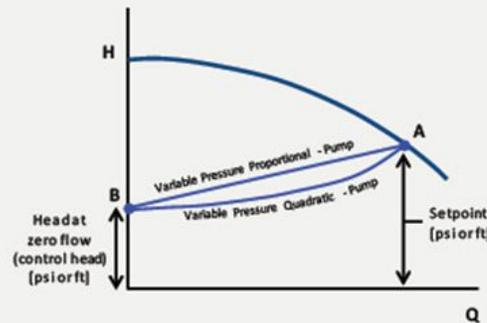

Figure 6
When pump-mounted sensors or powerbased control are used (Figure 6), there must be two setpoints: head / pressure at design (or maximum) flow (A), and head / pressure at zero flow (B). These two settings define the control curve characteristics. To properly set these parameters during commissioning, the head at zero flow (i.e., fixed head) needs to be determined. This fixed head is also referred to as control head